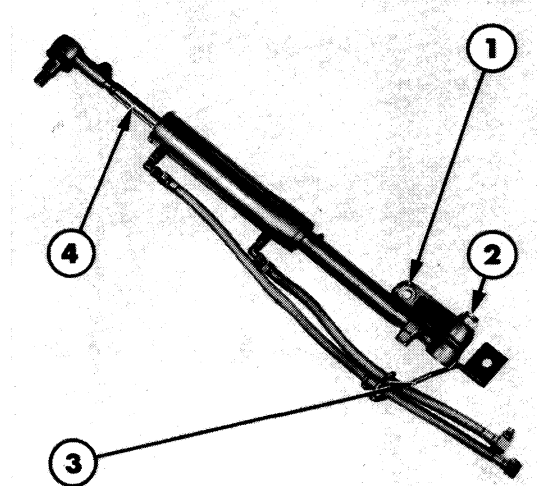

Figure 36
1. If a new assembly is to be installed, separate the cylinder assembly from the anchor, Figure 36.